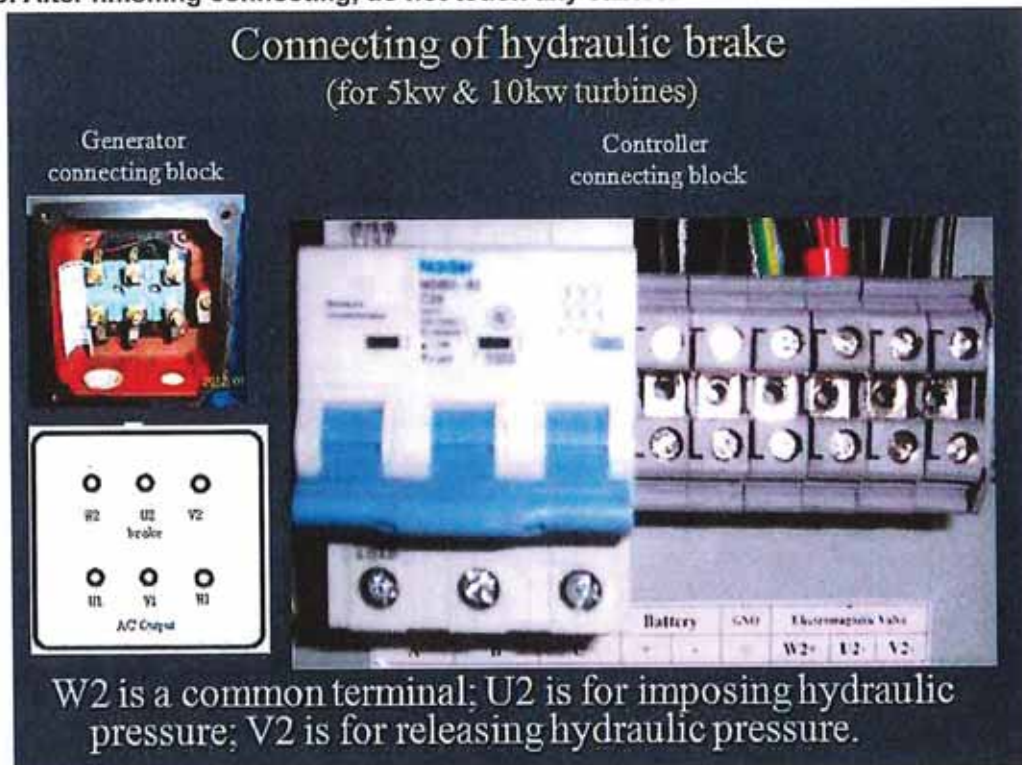

Figure 11
4.2.2 The procedure of connecting the cables to the controller is as follows, Refer to Figure 11